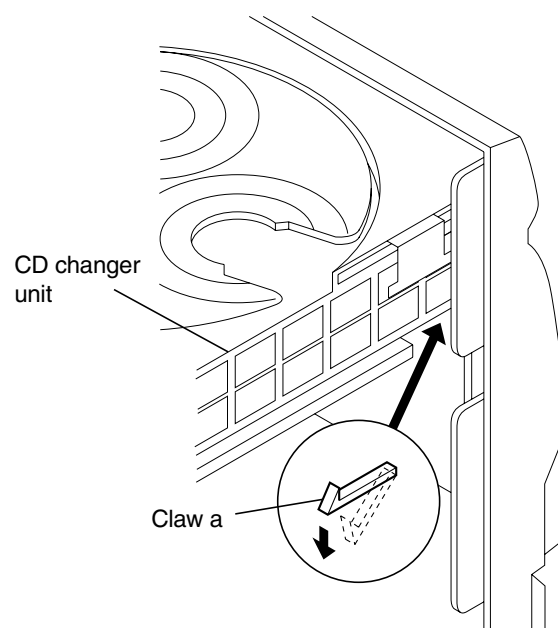

Fig.9
5. Push down and disengage the two claws "a" holding the CD changer unit at the bottom of its front panel and then remove the CD changer unit (Fig. 9).